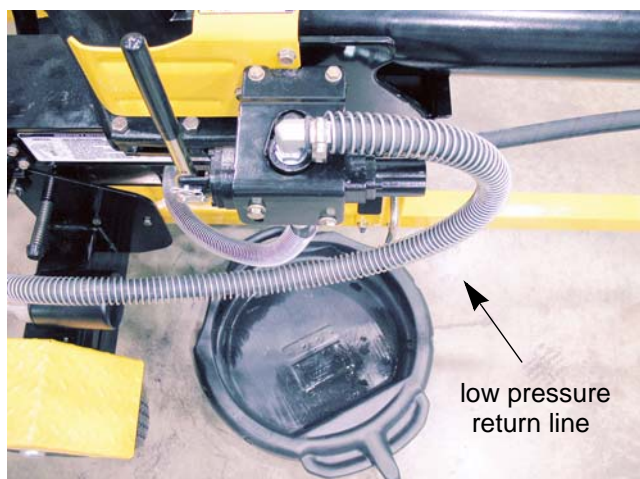

Figure 6.3
3. Place a suitable container under the valve to catch any fluid that will leak out as the hydraulic lines are removed. See Figure 6.3.